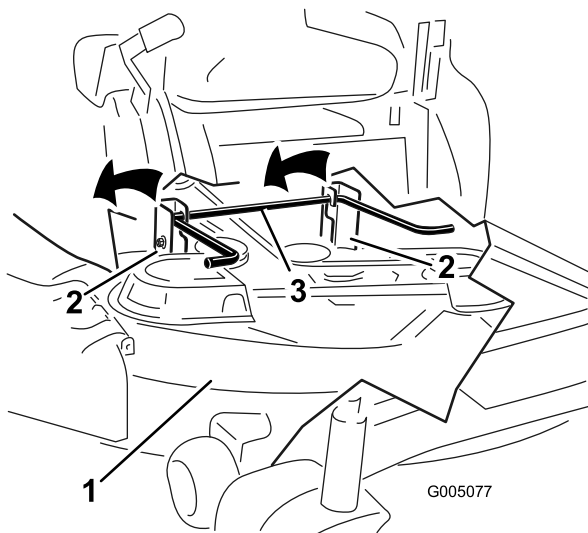

Figure 58
5. Lift the mower deck and hanger brackets clear of the rear lift rod and lower the mower carefully to the ground (Figure 58).
5. Lift the rear of the mower deck and guide the hanger brackets over the rear lift rod (Figure 58).